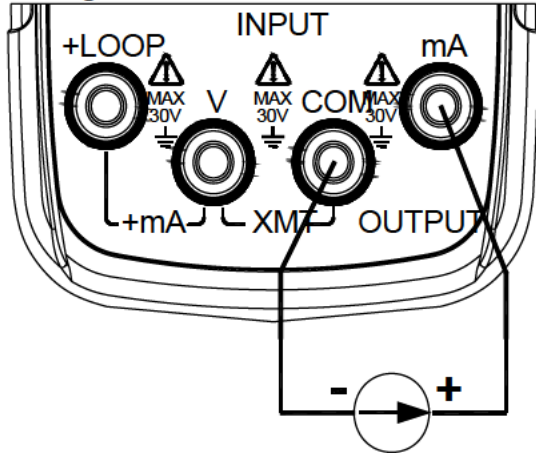

Figure 5-3
- 1) Insert one end of the test lead into the mA jack of the Instrument (INPUT) terminal and connect the other end to the output of the user's device as shown in Figure 5-3: